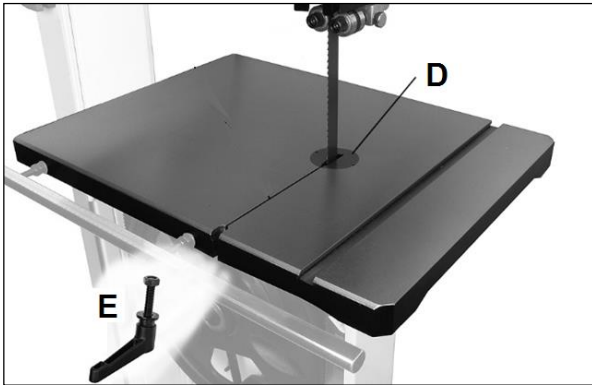

Fig 29
Remove the table insert (D, Fig 29) and the slot handle assembly (E).